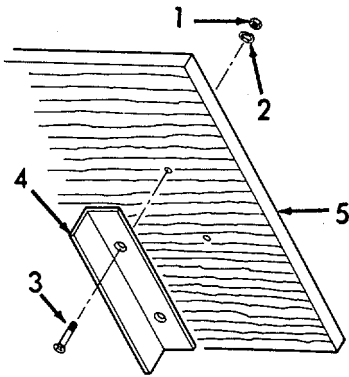

Figure 5-8. Clothing Sewing Machine Tray, Removal.
- (1) Inspect for damaged wood.
- (2) Inspect for damaged holddown straps and tray pulls.
- (3) Inspect for loose or missing hardware.
- (4) Inspect for damaged felt and rubber shock absorbers.
b. Removal. (Refer to Figure 5-8).